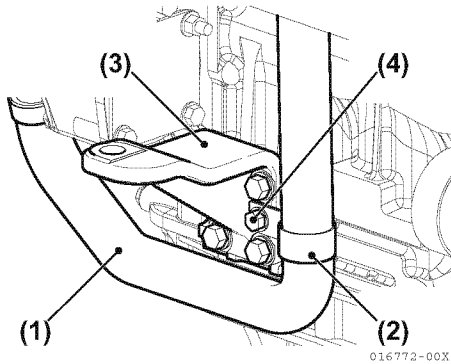

Figure 5-177
- For 4JH5E gear case side seawater pipe, insert the pipe in the retainer. Fasten the retainer to the mounting foot with flange bolt (Figure 5-177).